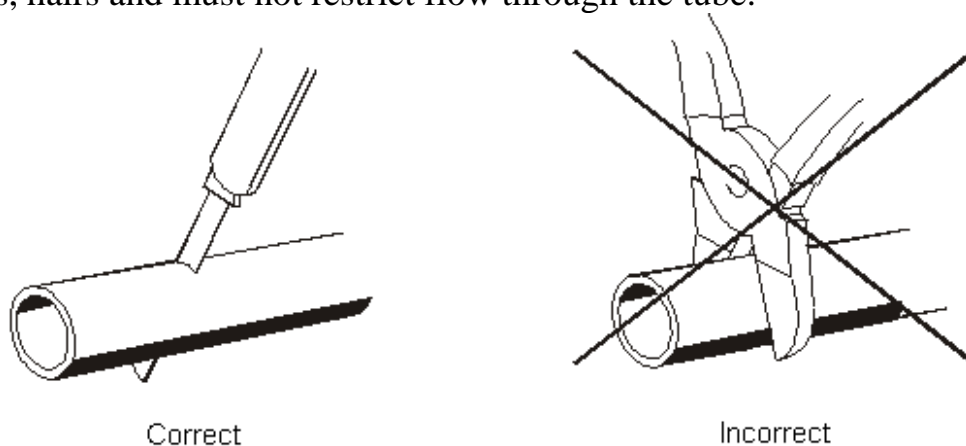

Figure 8.7 – Tube Cutting Prior to Installation
8.6.2 When installing the fuel supply line, do not allow connecting sleeves to bend. Use a sharp knife to cut the fuel tube as in Figure 8.7. The cutting location shall be free of indentations, hairs and must not restrict flow through the tube.